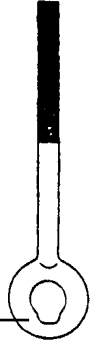

Fig. 1
- **WARNING:** Check eye bolt for wear and movement. If more than 30% of the thickness of the eye bolt is worn away (See fig. 1), discontinue use until replaced. If the eyebolt moves excessively, discontinue use until all hardware is checked and tightened.